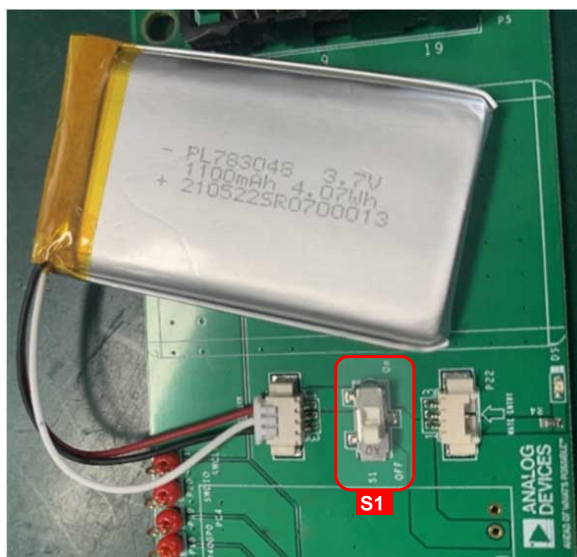

Figure 3. Battery Connected to EVAL-VSMUCZ
1. Connect the battery to the connector on the EVAL-VSMUCZ (see Figure 3). Ensure that the S1 switch is off.